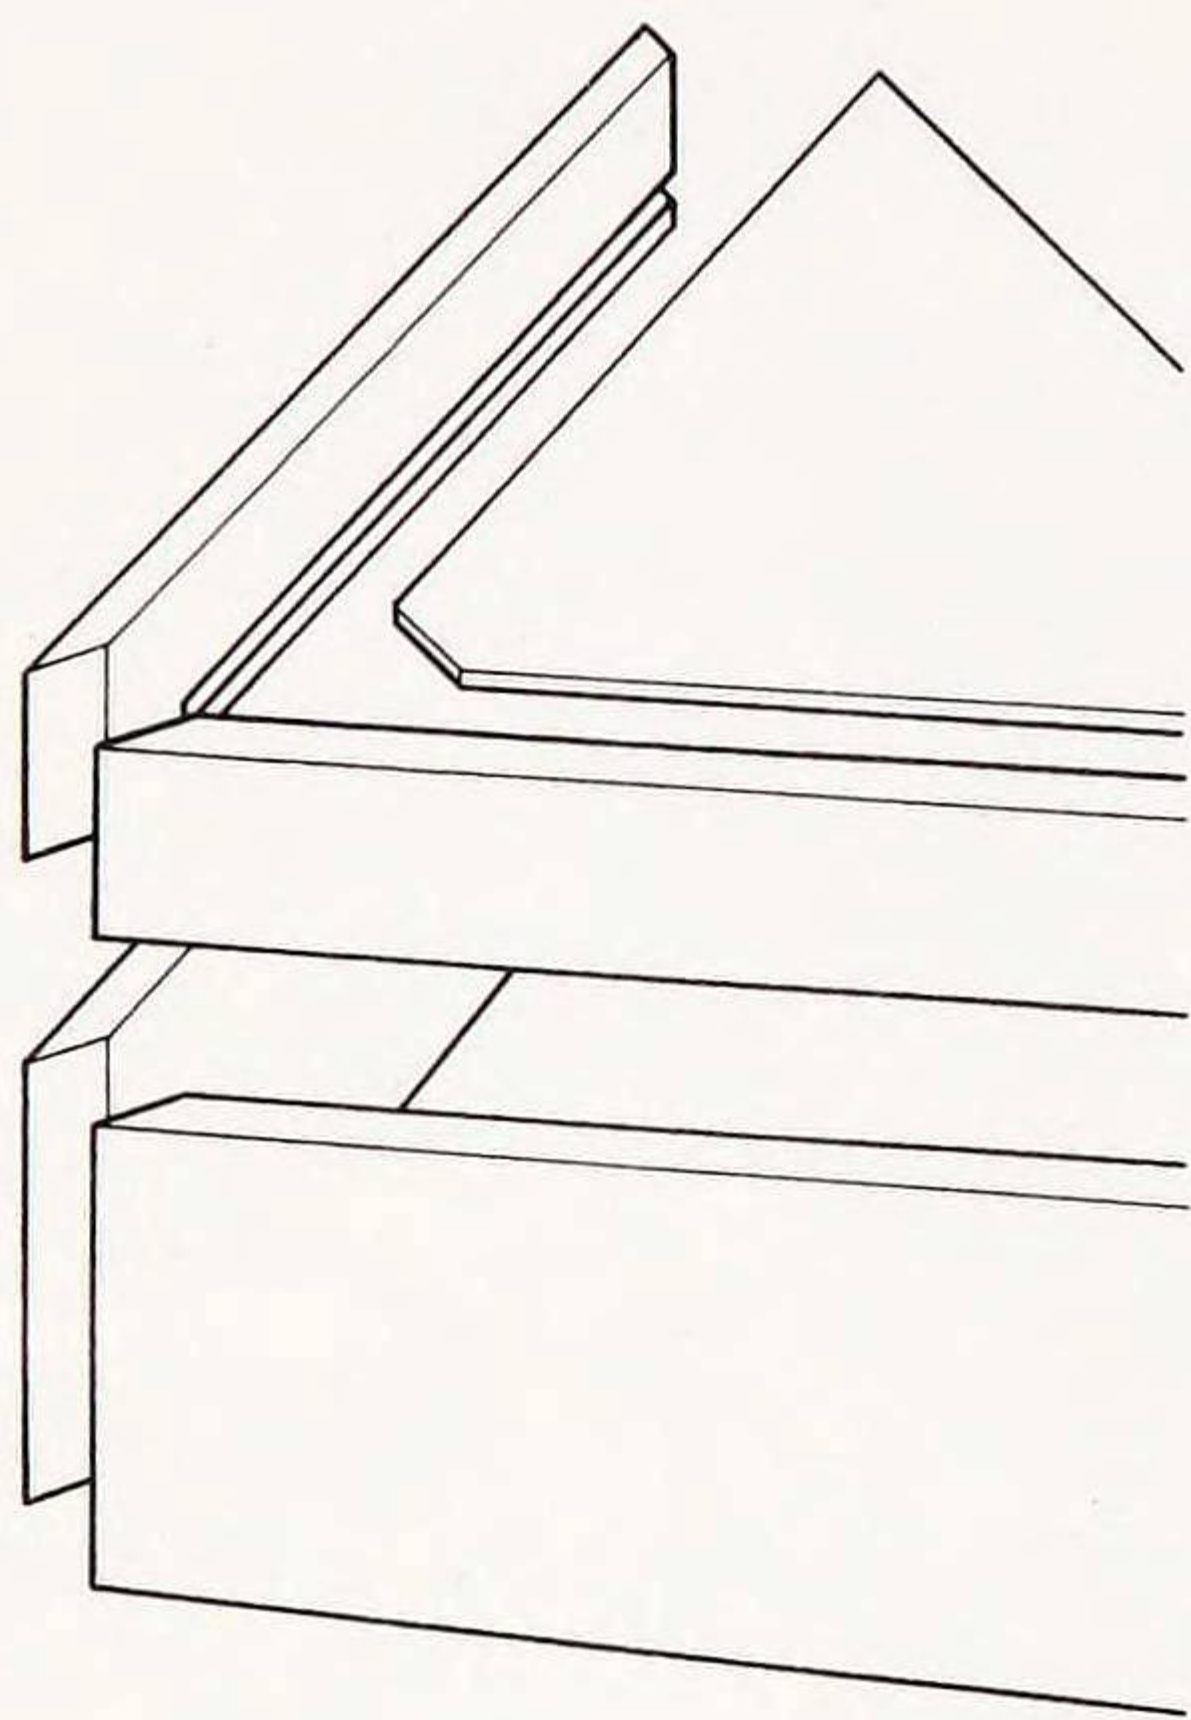

Fig. 4 The internal shelves
4. Make the joints between the stile and the tops and bottoms. Small mortises and tenons have been used here. Mark and cut the pieces for the fixed internal shelves. Only two sides are needed for the deep bottom one, while two sides and a thin ply bottom are needed for the top (Fig. 4).